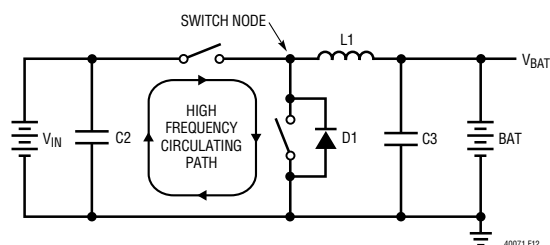

Figure 12. High Speed Switching Path
For maximum efficiency, the switch node rise and fall times should be minimized. To prevent magnetic and electrical field radiation and high frequency resonant problems, proper layout of the components connected to the IC is essential. (See Figure 12.) Here is a PCB layout priority list for proper layout. Layout the PCB using this specific order.
12. For best current programming accuracy provide a Kelvin connection from  $R_{\text{SENSE}}$  to CSP and BAT. See Figure 12 as an example.